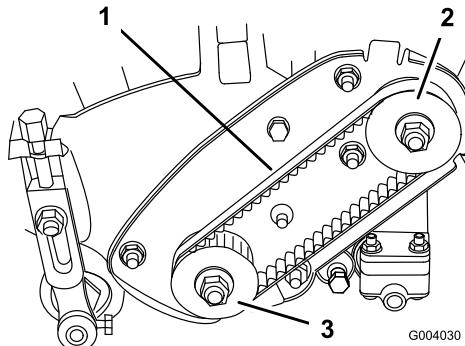

Figure 34
2. Check tension by depressing belt (Figure 34) at mid span of pulleys with  $4 \pm 1$  lb. of force. Belt should deflect  $3/16$  to  $5/16$  inch (4.8 to 7.9 mm). If the deflection is incorrect, proceed to next step.